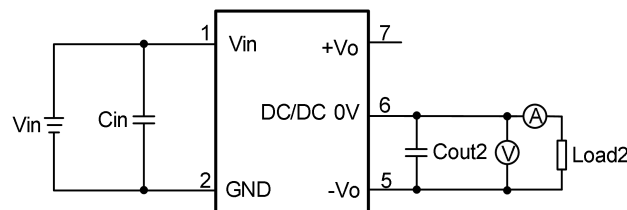

Figure 2 Test Circuit Diagram for Negative Output Data
RE	CISPR32/EN55032 CLASS B (Figure 2-②)